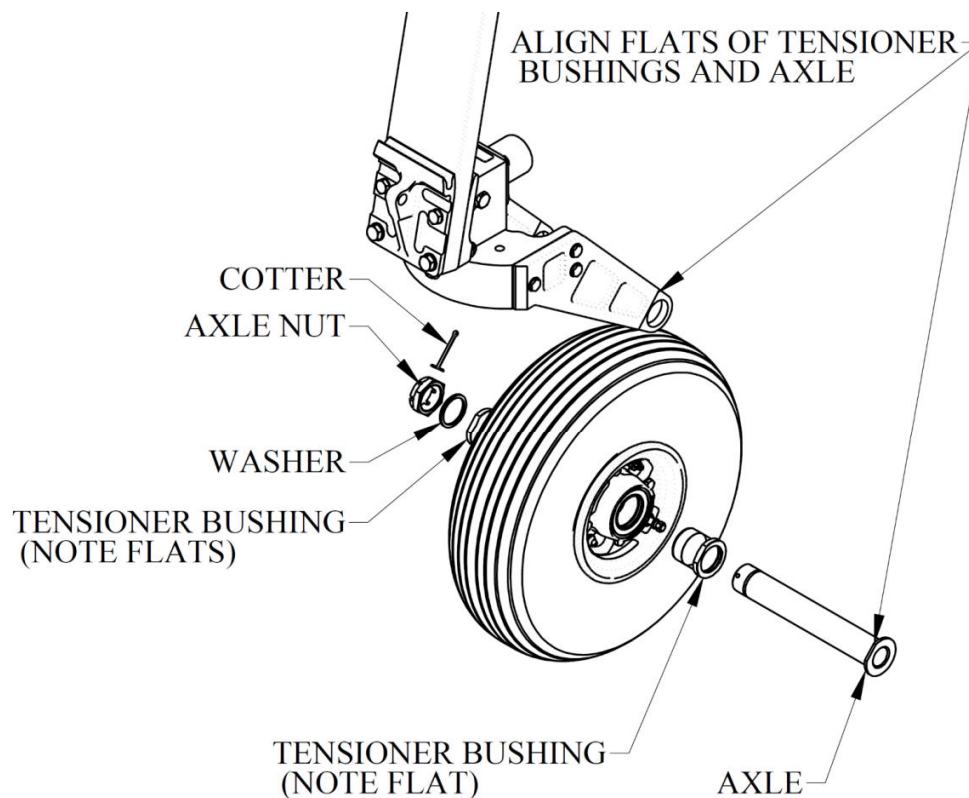

Figure 3-6: Exploded View of Nose Wheel Installation
3.7. Nose Wheel Installation - Reference 65-42100, Sheets 1 & 2, and Figure 3-6.